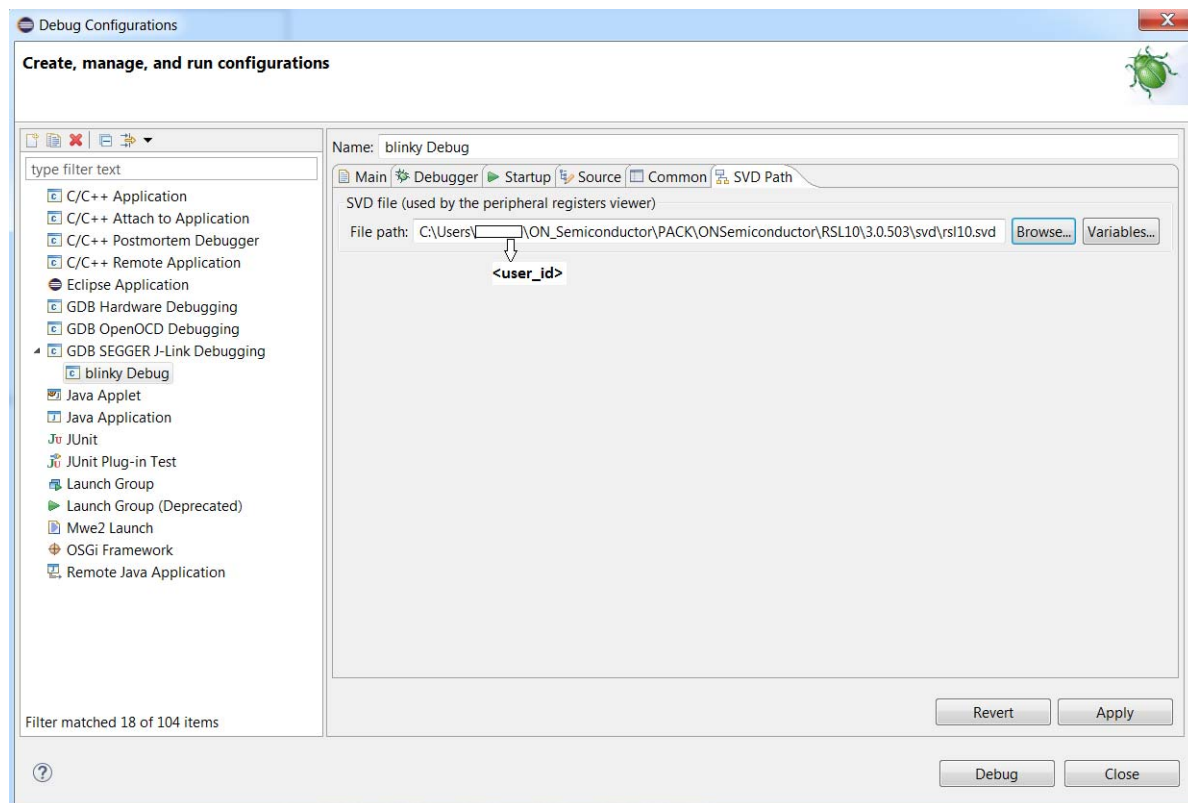

Figure 13. SVD Path Tab Perspective
2. Change to the **SVD Path** tab, and set the path to the *rs10.svd* file as `C:\Users\<user_id>\ON_Semiconductor\PACK\ONSemiconductor\RSL10\<pack_version>svd` (see Figure 13). Click **Debug**.